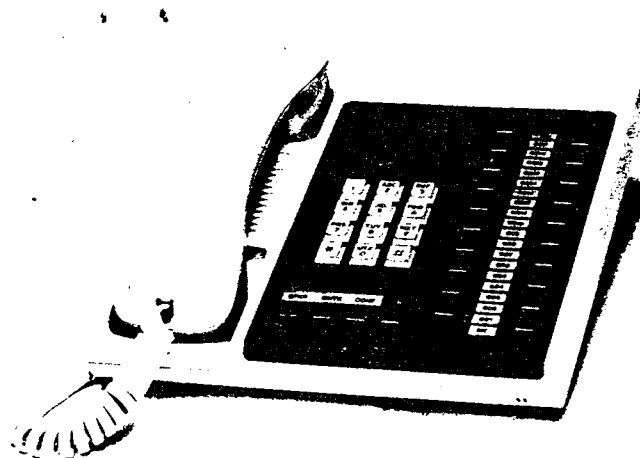

FIGURE 31—20-key EKT
09.02 The 20-key EKT, Figure 31, measures: